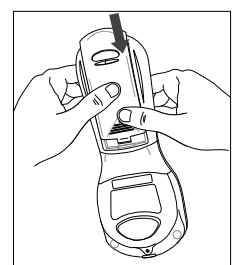

Figure 6
8. Align the battery compartment cover with the slots on the FreeStyle Precision Pro meter, then slide the cover into place. (Fig. 6)